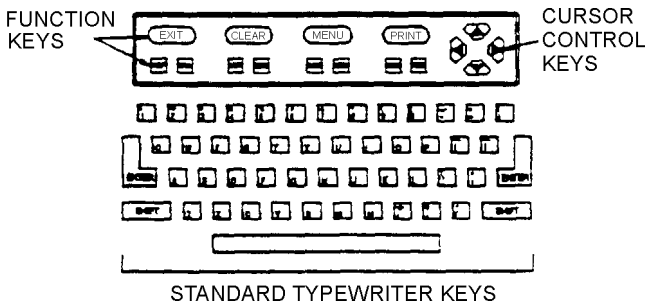

Figure 10. LS2000 Keyboard
- b. An RS232 serial port for down loading from a personal computer (PC).
43. **KEYBOARD.** The keyboard of the LS2000 is divided into three groups and categorized by key functionality (Figure 10)
(1) Press the first letter of the selection. Pressing first letter of the selection will automatically activate the choice.
(2) Move the cursor by pressing control keys. The cursor will move in same direction as designated by cursor arrows (Figure 10)